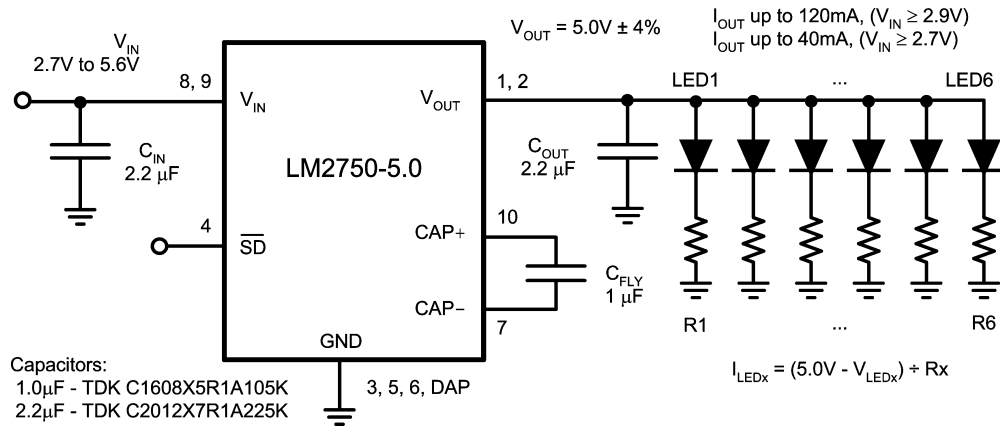
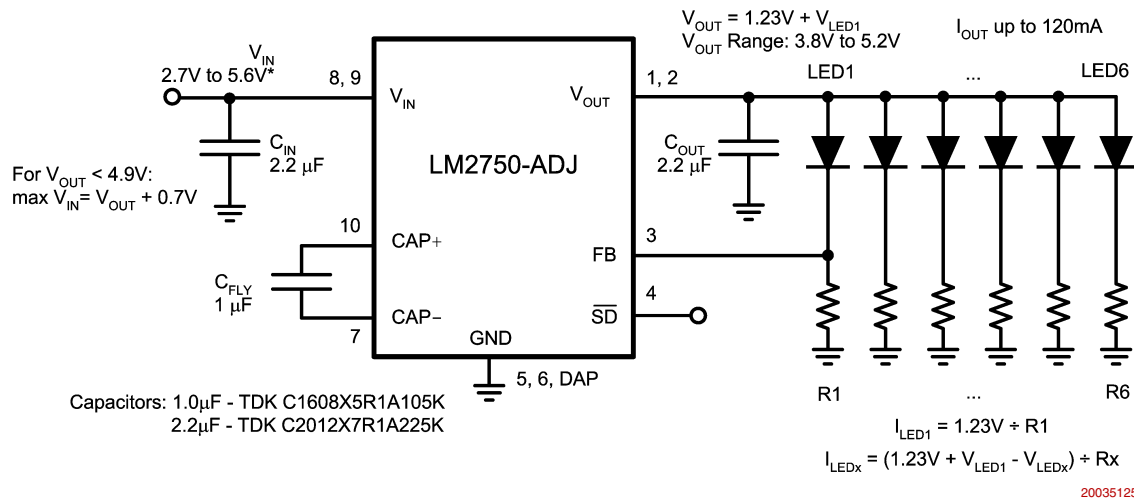

FIGURE 5. LM2750-5.0 LED Drive Application Circuit
FIGURE 6. LM2750-ADJ LED Drive Application Circuit
The LM2750 is an excellent part for driving white and blue LEDs for display backlighting and other general-purpose lighting functions. The circuits of Figure 5 and Figure 6 show LED driver circuits for the LM2750-5.0 and the LM2750-ADJ, respectively. Simply placing a resistor (R) in series with each LED sets the current through the LEDs:
The feedback pin of the LM2750-ADJ can be utilized to help better control brightness levels and negate the effects of LED forward voltage variation. As shown in Figure 6, connecting the feedback pin to the primary LED-resistor junction (LED1-R1) regulates the current through that LED. The voltage across the primary resistor (R1) is the feedback pin